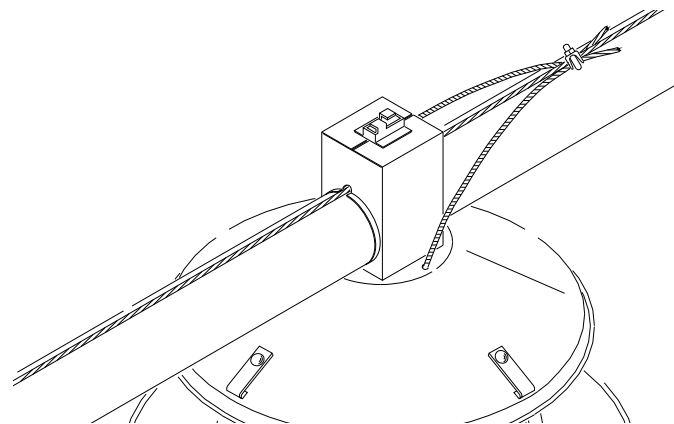

Figure 11. Cable Assembly Installation
9. Thread the cable assemblies through the holes on each side of the pan shield from the underside. Then clamp to the master cable with a cable clamp, see **Figure 11**.